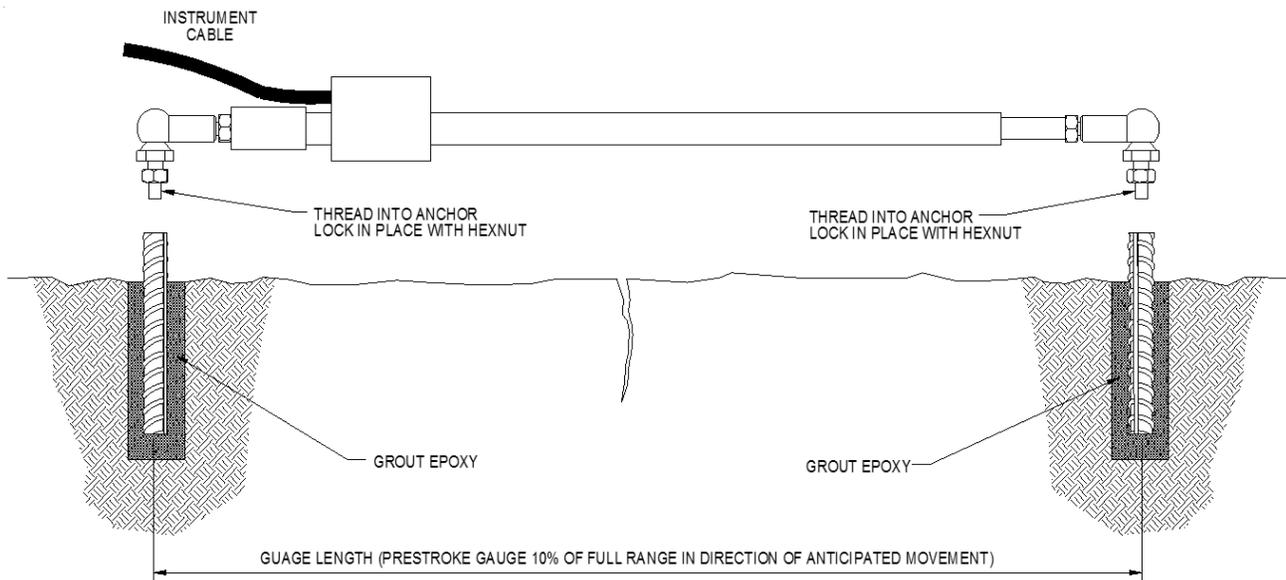

Figure 3: Installing Crackmeter
4. Push in the Crackmeter anchors until they are flush with the surface, as shown in Figure 3.